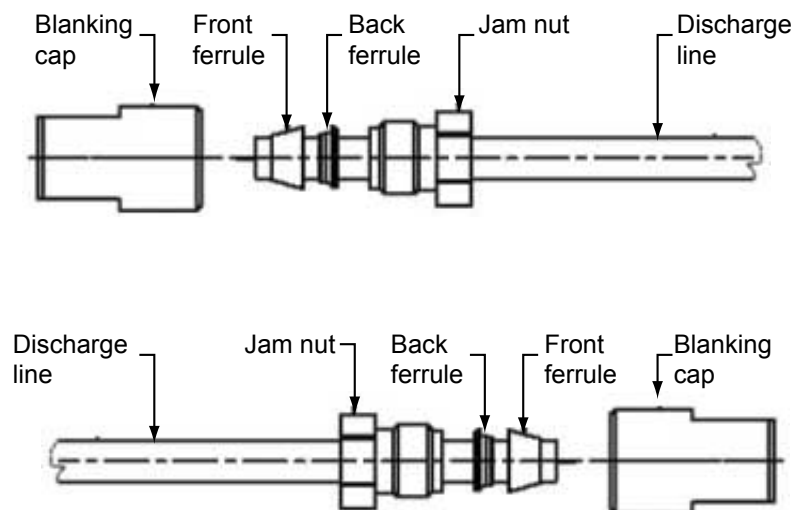

Figure 4-24: New Gauge Discharge Pressure Line
The new Discharge Line and details of the jam nut and ferrules are as shown in the Figure 4-24: New Gauge Discharge Pressure Line.
1. Refer to Figure 4-24: New Gauge Discharge Pressure Line. Remove the blanking cap (1) from one end of the line and replace with the Discharge Line Adaptor. Attach the other end of the Adaptor to a hand pump and close the bleed valve on the pump.
- e. Tighten the jam nut connection to 15 ft-lbf (equivalent to 1-1/4 turns). Refer to Figure 4-24: New Gauge Discharge Pressure Line for details of the jam nut and ferrules.
1. Cut the lower connection off using a tubing cutter above the lower tube coupling (7).
4. Tighten the connection to 15 ft-lbf (equivalent to 1-1/4 turns). Refer to Figure 4-24: New Gauge Discharge Pressure Line for details of the jam nut and ferrules.
Refer to Figure 4-24: New Gauge Discharge Pressure Line for the following procedure.